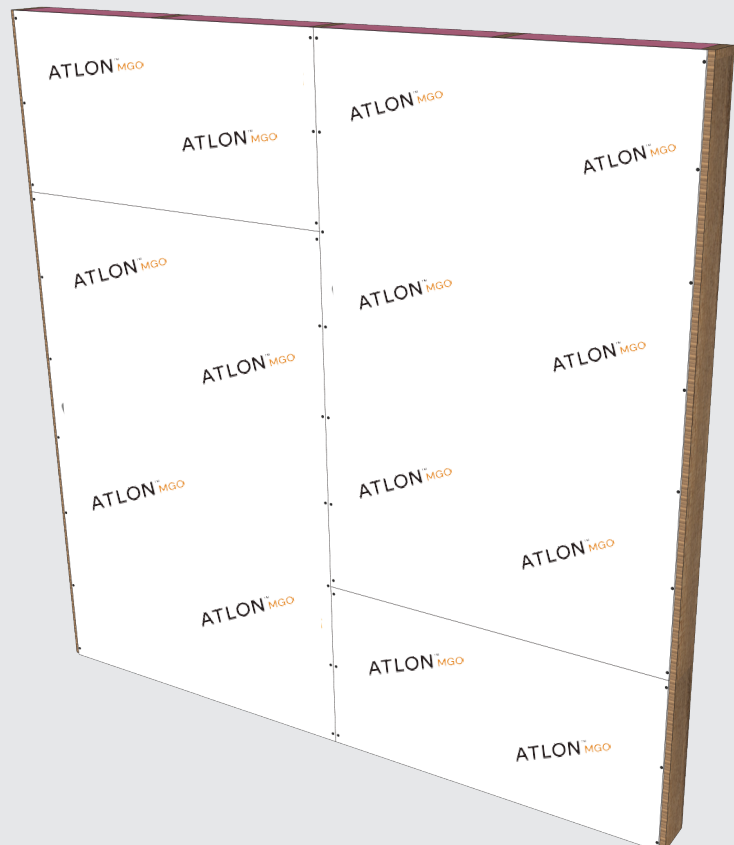

Figure 6.
- Boards should always be installed in a staggered/offset fashion so that the four corners never meet at one point. (Figure 6)